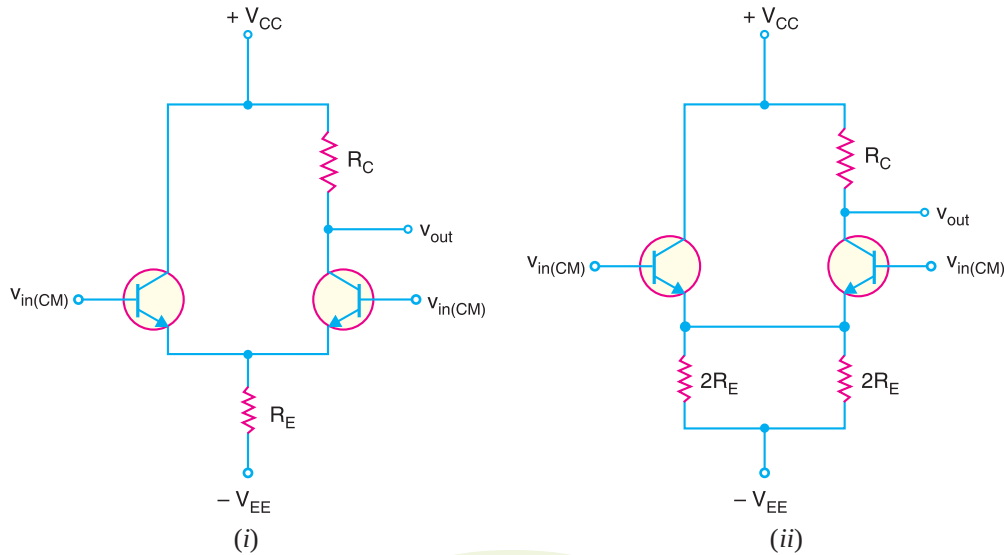
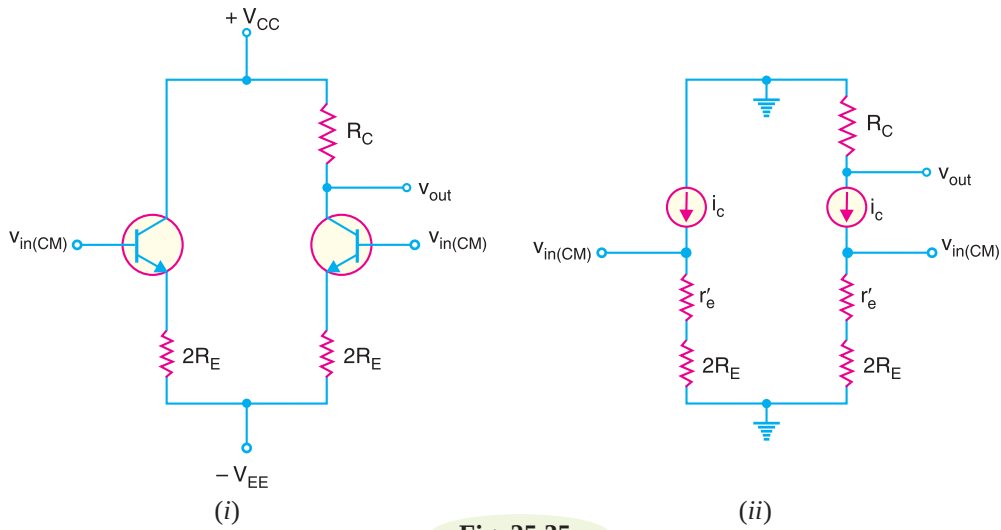

Fig. 25.34
Fig. 25.35
The common-mode signals are equal in amplitude and have the same phase. Fig. 25.34(i) shows the common-mode operation of a differential amplifier (DA). Note that the same input voltage, $v_{in(CM)}$ is being applied to each base. Ideally, there is no a.c. output voltage with a common-mode input signal. It is because a differential amplifier is designed to respond to *the difference between two input signals*. If there is no difference between the inputs, the output of DA is zero. In practice, the two halves of the differential amplifier are never completely balanced and there is a very small a.c. output voltage for the common-mode signal.
The circuit shown in Fig. 25.34(i) can be redrawn as shown in Fig. 25.34(ii). In this equivalent circuit, the two parallel resistances of $2R_E$ produce an equivalent resistance of R_E . Therefore, this equivalent circuit will not affect the output voltage. Assuming identical transistors, the two emitter currents will be equal and produce the same voltage across emitter resistors. Therefore, there is no current through the wire between the emitters. We can remove this wire and the circuit becomes as shown in Fig. 25.35 (i).
A.C. equivalent circuit. To get the a.c. equivalent circuit, we can reduce both supply voltages to zero *i.e.*, we ground each supply point. Replacing the transistors by their a.c. equivalent circuits, we get a.c. equivalent circuit of differential amplifier for common-mode operation as shown in Fig. 25.35 (ii). We can derive the voltage gain of an **unbypassed CE* circuit. Here we will use $2R_E$ in place of R_E .